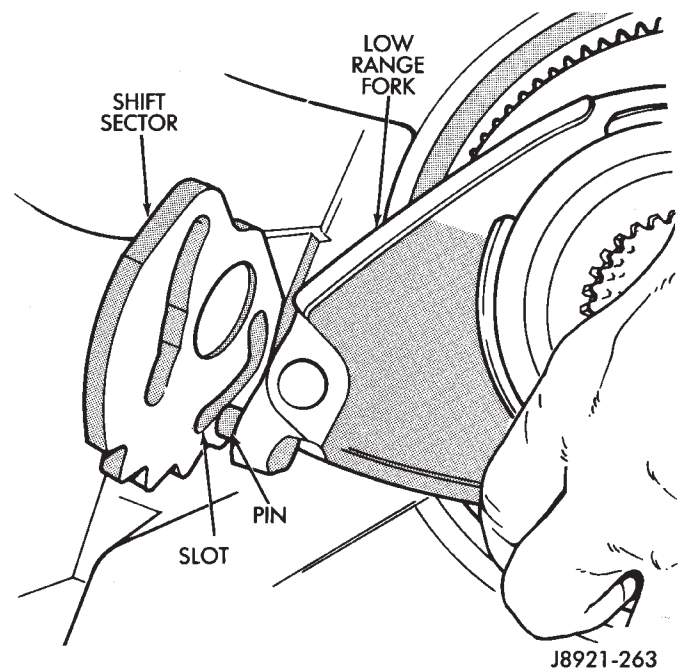

Fig. 70 Positioning Low Range Fork
- (5) Position low range fork and hub in case. Be sure low range fork pin is engaged in shift sector slot (Fig. 70).